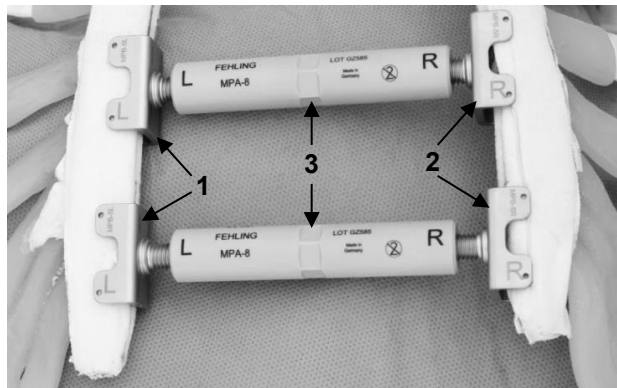

Fig. 2: Configuration example for use in patients with osteoporosis
Unlike the other patient groups, **two** sternal retainers, each consisting of a PEEK nut (3) and two sternal blades (1 and 2) (MPB-5R/L, MPB-6R/L), must be used in parallel (Fig. 2).